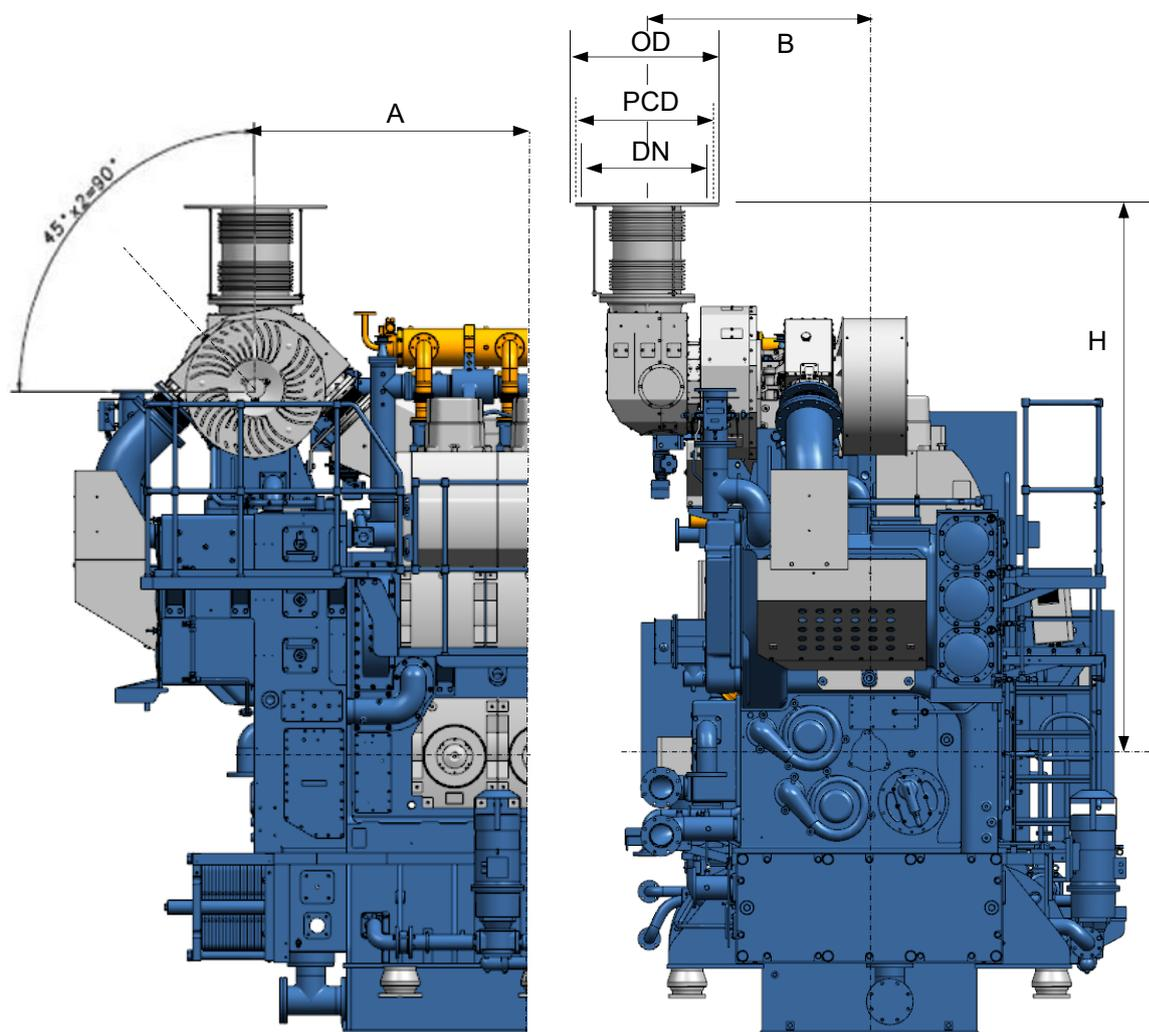

Figure 9.4 External exhaust gas pipe connection.
1) See “Figure 9.4 External exhaust gas pipe connection”.